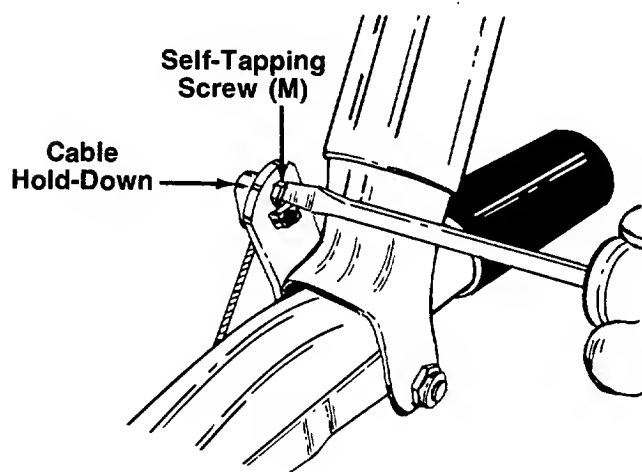

FIGURE 10.
- c. Pull the cable upwards to obtain slack, lift clutch grip, and insert the left hand cable hold-down into the left hand clutch grip. Secure with self-tapping screw (M). See figure 10.